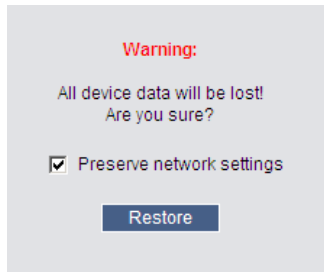

Figure 23 Restore factory settings
1. From the menu select **Restore Factory Settings**. **Restore Factory Settings** appears see Figure 23.